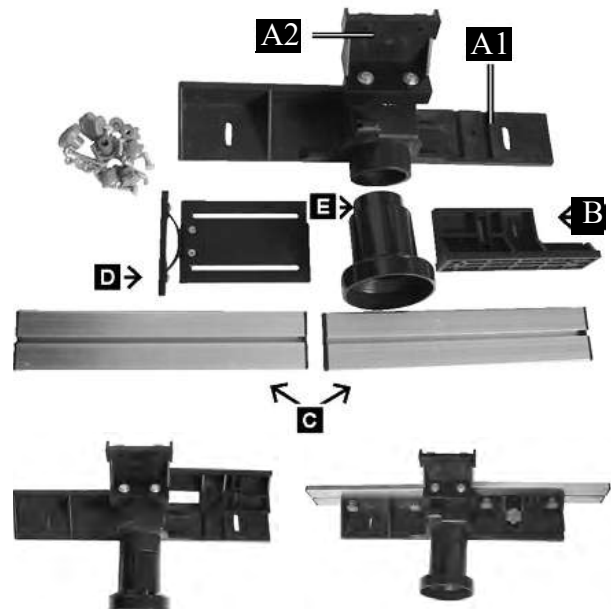

Fig. 5: Installing the spindle fence
- Main support (item A1, Fig. 5)
- Attachment (item A2, Fig. 5)
- Fence support (item B, Fig. 5)
- Stop rails, 2 units (item C, Fig. 5)
- Clamping bracket (item D, Fig. 5)
- Suction nozzle (item E, Fig. 5)
Push the fence support (item B, Fig. 5) into the groove on the main support (item A1, fig. 5). Then insert an M6x25 carriage bolt through the hole and screw a plastic flanged nut with washer onto it.
- Step 2: Install the stop rails (item C, Fig. 5). Insert two fillister screws into the mounting openings, fit with a washer a plastic cap nut, and tighten by hand. Then slide the stop rail with the groove onto the heads of the carriage bolts. Now tighten both plastic flanged nuts. Carry out the same operation on the other side of the fence. Make sure that the stop rails (item C, Fig. 5) are fitted in the right direction. Make sure that the stop rails (item C, Fig. 5) are fitted at the same height as the main support and attachment (A1 and A2).